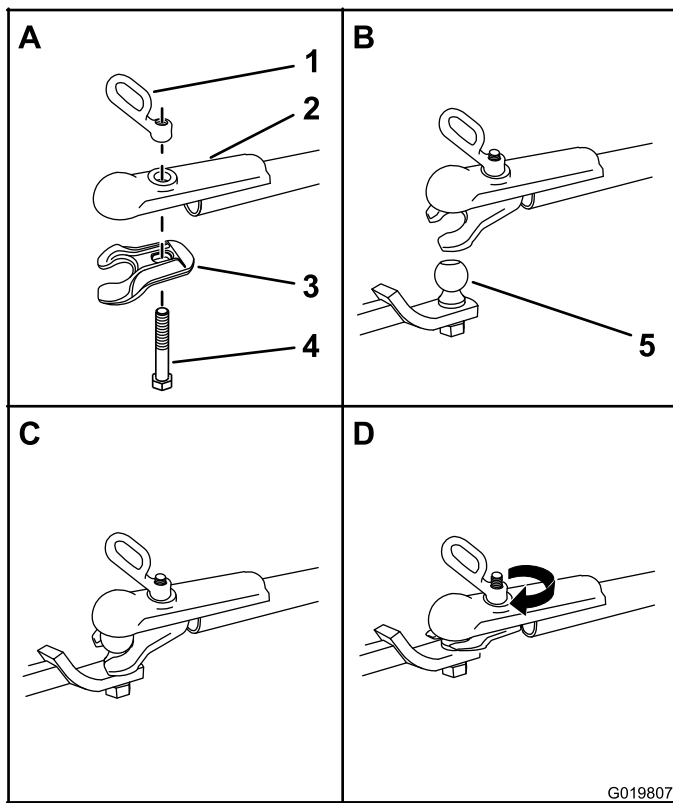

Figure 23
- Apply removable thread-locking compound to the threads of the coupler bolt to prevent the coupler handle from coming loose (Figure 23).
3. Push the coupler bolt up through the coupler clamp and the coupler top, and connect the coupler handle to the bolt (Figure 23).
5. Turn the coupler handle clockwise to thread it onto the bolt until it is secure (Figure 23).